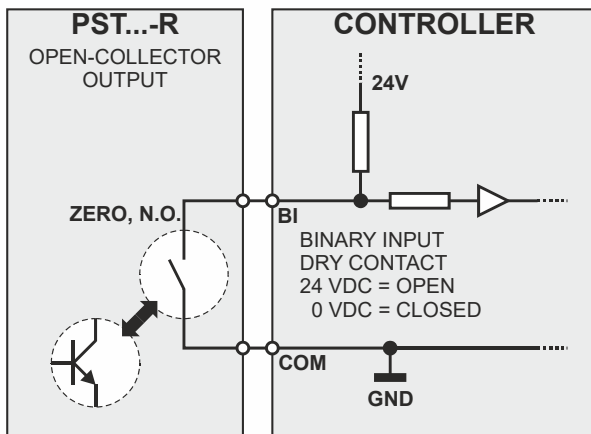

Fig. 2. Example configuration (N.O. open-collector to ZERO)
- Normally-open or normally-closed open-collector (to FSO or ZERO) – see also Fig. 2.